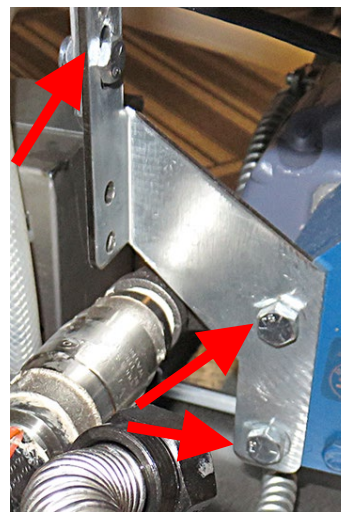

Figure 16
17. Use a 7/16" wrench to remove the nut and bolt from the filter pump shipping bracket (see Figure 16).
18. Use a 1/2" wrench to remove the two (2) bolts securing the filter pump bracket to the filter pump (see Figure 16). Discard the bracket.
19. Reinsert the two (2) bolts into the filter pump and tighten. Torque to 15 foot lbs. Do **NOT** overtighten.